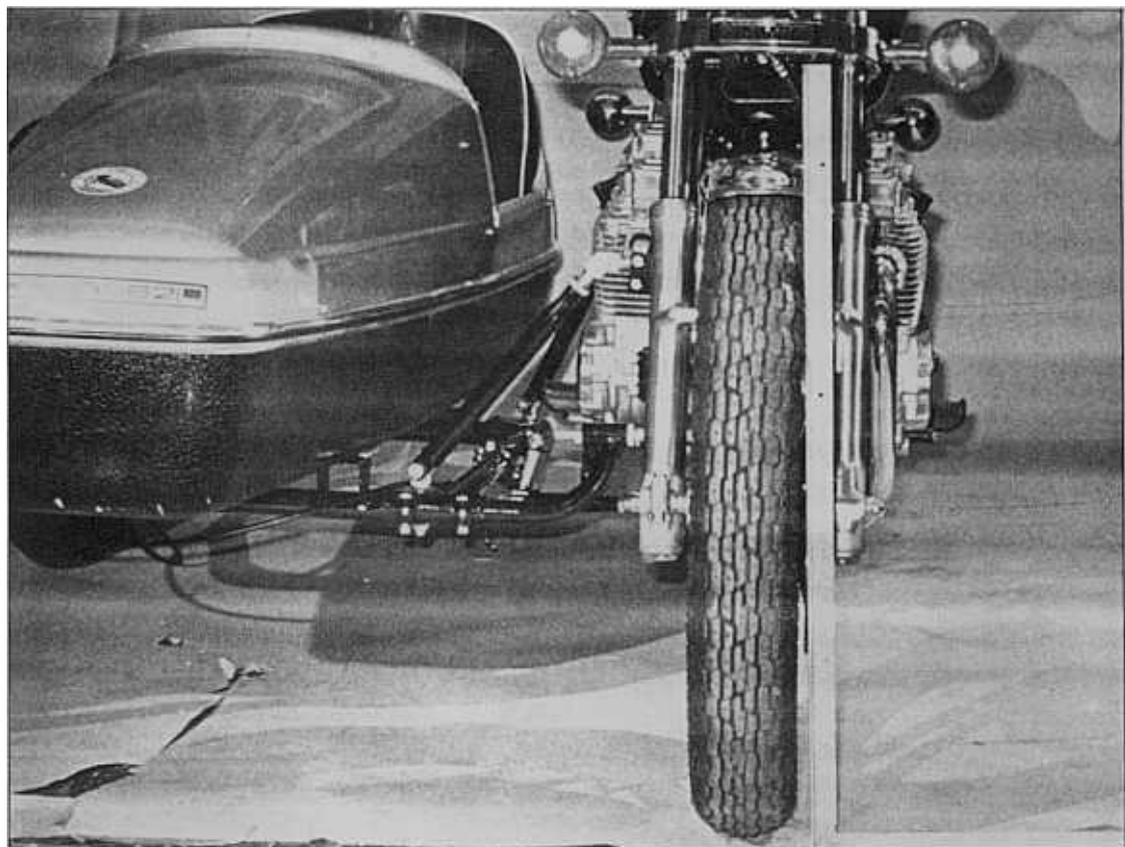

FIGURE 12. Note clearance between tire and angle bracket at ground surface. Lean-out, with empty sidecar, is 1/8 of an inch.
1. Place an angle bracket against the outside edges of the front wheel tire, as shown in figure 12. Note the clearance between the tire and the angle bracket at the ground surface. The correct **lean-out** distance is $\frac{1}{8}$ of an inch.